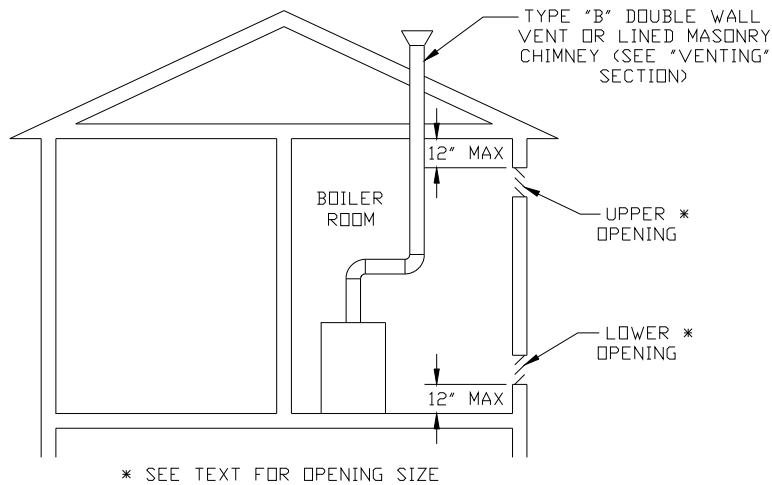

FIGURE 6: ALL AIR FROM OUTDOORS, USING OPENINGS INTO BOILER ROOM
- Vertical ducts or openings directly outdoors (Figure 4, Figure 5, and Figure 6) - Each opening must have a free cross sectional area of 1 square inch per 4000 BTU/hr of the total input of all gas-fired appliances in the boiler room but not less than 100 square inches. Minimum opening size is 3 inches.